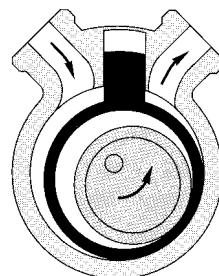

Fig. P11.5
**11.5** What type of pump is shown in Fig. P11.5? How does it operate?